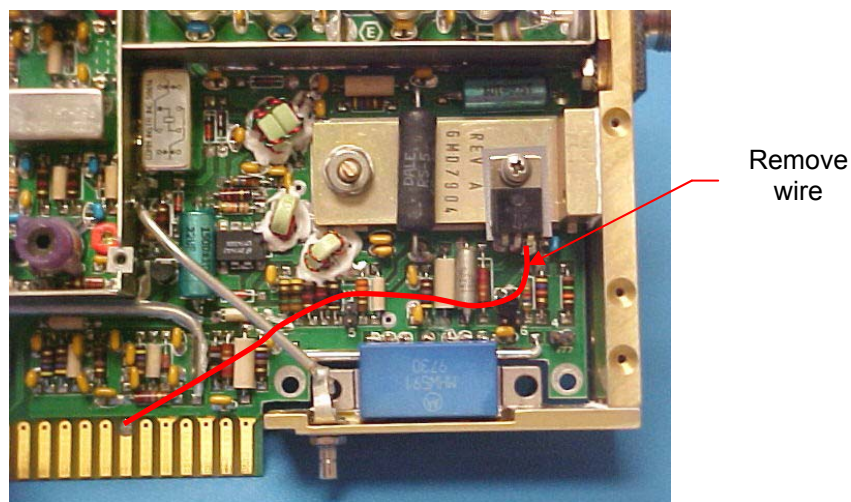

Figure 1B
1. Remove wire from P7 Pin 7 and Q5 Pin 3 as shown in Figure 1B.